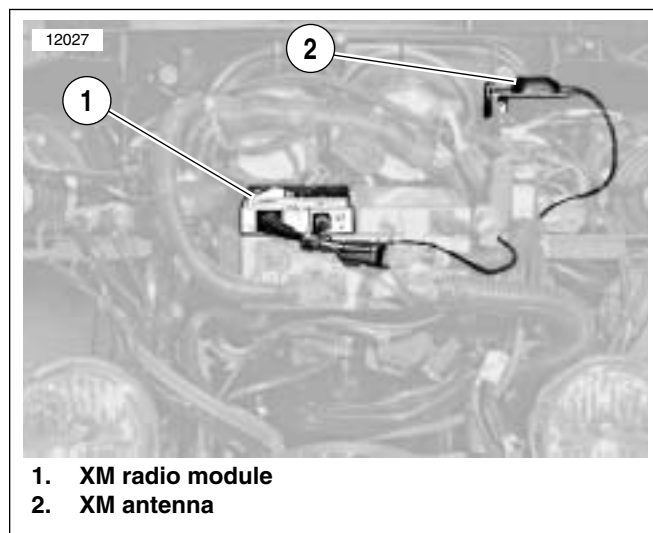

Figure 8-15. XM Radio Module and Antenna
See Figure 8-15. The XM radio module (1) is mounted atop the AM/FM/WB radio inside the vehicle's fairing. The XM antenna (2) is also mounted inside the fairing.
See Figure 8-15. The XM radio antenna is mounted inside the vehicle's fairing, in the upper right corner.